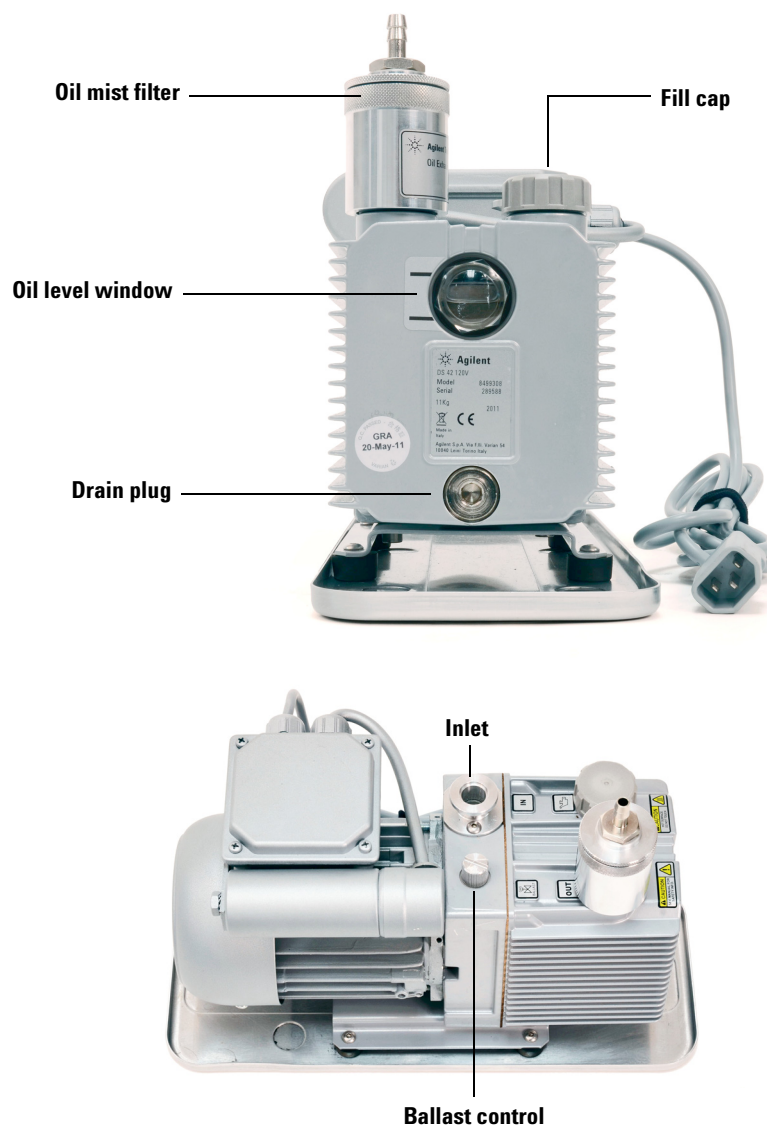

Figure 3 RVP foreline pump
- 1 Examine the oil level window (Figure 3).
- 3 Place a book or other object under the pump motor to tilt it up slightly. Remove the fill cap. See Figure 3.